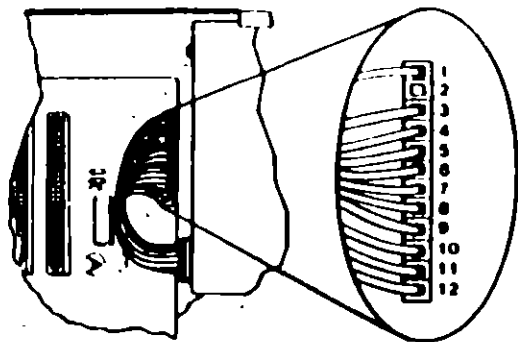

Figure 4. System Board Power Connectors
- Check for a voltage of 2.4 to 5.2 Vdc between pins 1 and 5 (ground) at the system board power connector (Figure 4 on page 0020-8)